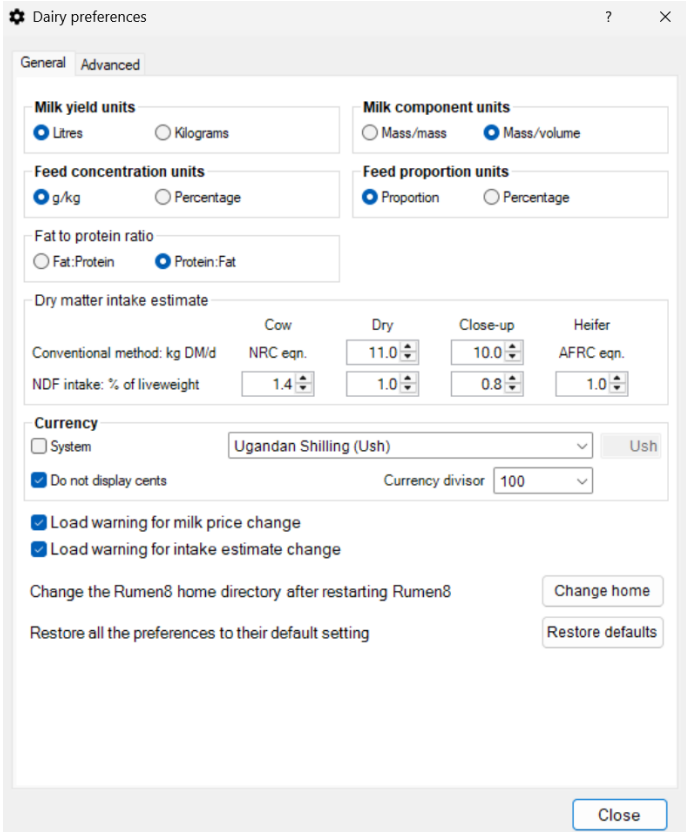
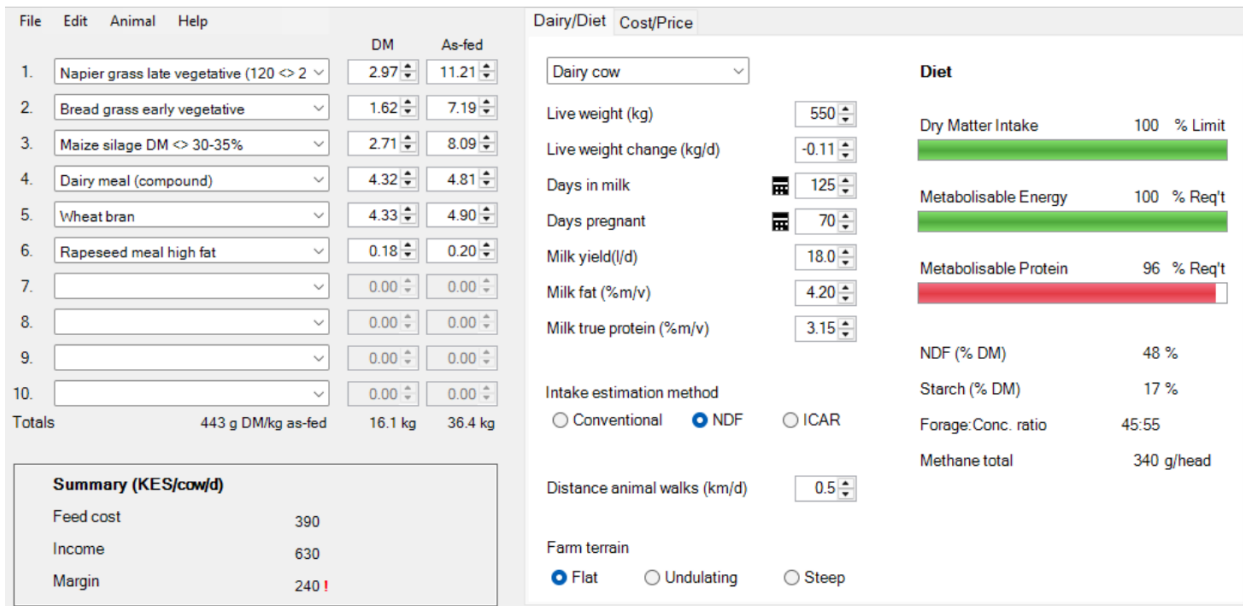

Figure 5. Example of settings under Preferences in Compact Mode
Figure 6. Example of a cow and diet in Compact mode
Under Preferences in the File menu, also set the currency to the one you want to use. Additionally, one can set milk yield to be expressed in litres or kilograms with milk components expressed in mass/volume% or mass/mass%. The other settings under Preferences probably do not need to be changed and can be left as shown in Figure 5. In this User Guide we provide examples in KES (Kenyan Shillings). At the time of writing, in March 2026, 1 KES roughly equalled €0.0066, that is 1 € was approximately 150 KES. It is recommended to check 'Do not display cents' in order not to show cents.
To create a new diet, the cow is to be defined on the Dairy/Diet tab (Beef tab in beef mode), where the diet can be entered *as fed* or in kg dry matter (DM) (Figure 6). For determining DM intake (DMI) capacity there are three options, either the conventional method (based on NRC 2001), the so-called NDF method or ICAR (based on Indian Council of Agricultural Research). Rumen8 assumes a default value of NDF intake of 1.2% of body weight which can be altered in the Preferences (Figure 5). For dairy cows in the tropics, NDF at about 1.4% of body weight may be a better estimator of DMI than the conventional method. However, DMI is a complex matter and, where possible, intake should be weighed and assumed intake should be replaced by observed intake. (In the 'Diet detail' tab of Standard mode, the percentage of maximum DMI in the 'Conventional method' is shown next to the 'NDF method' and the 'ICAR method'. ('Conventional' should never exceed the 100% target with more than 2% to avoid feed losses).
One usually formulates for one cow that represents your herd or sub-herd. For milk yield, enter the average yield in the last 5-10 days of the herd or sub-herd. The example in Figure 6 is of a stall-fed cow and the distance walked is set at 0.5 km/d. Depending on the weight of the cow, walking on undulating terrain takes 2-3 MJ/km, which is equivalent to the energy
The example in Figure 6 is one of a diet deficient in metabolisable protein (MP) as shown by the red colour of the MP bar. This can be remedied by feeding more rapeseed (Canola) meal. At the same time, supply of a low protein ingredient such as mature Napier should be reduced because the cow is already at 100 % of her physical (i.e., NDF) intake potential. Note: A green bar indicates that supply meets demand (+/- 2%, this can be adjusted in the Advanced Preferences) a red bar indicates that supply is below demand and a yellow bar supply exceeds demand.
For the farmer, the most important parameter is the Margin Above Feed Cost (MAFC), which is milk income minus feed cost. It is shown in the bottom left summary section of Figures 6 and 7. If the user hovers the cursor over the red exclamation mark a tool tip appears warning the user that “The margin may be misleading as the diet ME or MP is not meeting the animal’s requirements”.
The Live weight change calculator is a useful tool as shown in the following example. First hover over the caption 'Live weight change (kg/d)', and a Figure and Table with target Body Condition Scores (BCS) will appear. Note that those will only appear if a cow and diet are entered. Figure 9 on the left is a screenshot of the cow shown in Figure 6, i.e., weighing 550 kg, 125 days in milk and losing 0.11 kg per day.